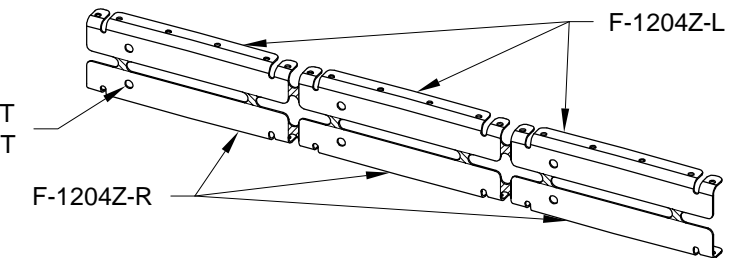

FIGURE 4: SEPARATING THE F-1204Z BOTTOM STIFFENERS
Step 8: Separate the F-1204Z Bottom Stiffeners by removing the hatched areas shown in Figure 4.